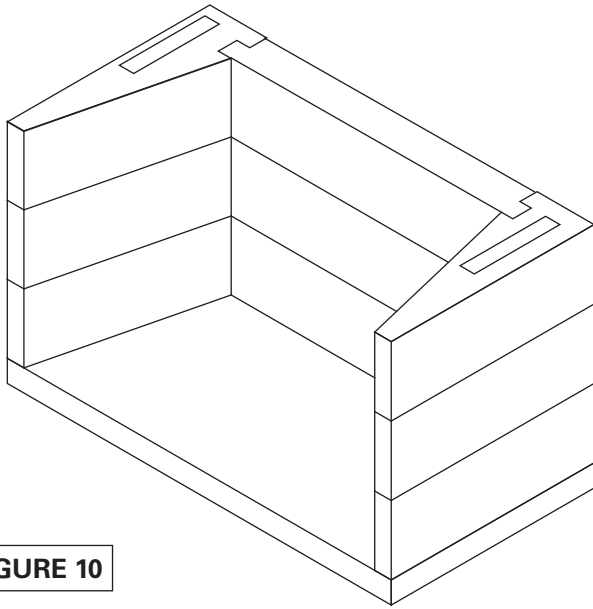

FIGURE 10
3. Continue with the sequential assembly of the second and third courses of the side walls and back wall by first applying grout to the top of the previous layer, setting the next course above into grout already applied to the horizontal contact surface of the component below. Again be sure to grout the vertical joints of the side wall to back wall connection as each component is joined to its mate. Look for some mortar to squeeze out along all joints as a sign of proper sealing of the joint. **(Figure 10)**